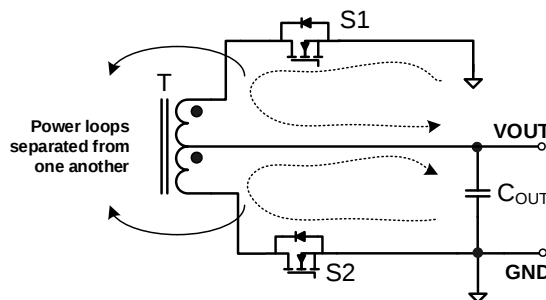

Figure 13: System Power Loop
Figure 13 shows a layout example of the power loop trace, which has a minimized loop length. The two channel power traces do not cross one another.
1. Keep the two channels' power loops separated (see Figure 13) to minimize their